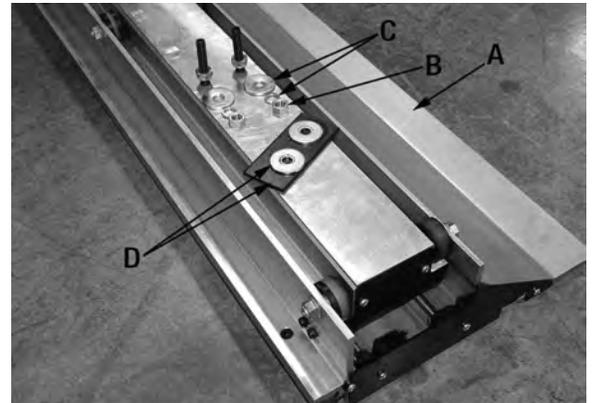

FIGURE 28
1. Position the sliding table (A) Fig.28 upside down and remove the 4 top hex. nuts (B) and 4 washers (C), this hardware will be used to secure the sliding table from inside the cabinet. Also remove the 2 steel plates (D) and the 4 washers underneath the steel plates.